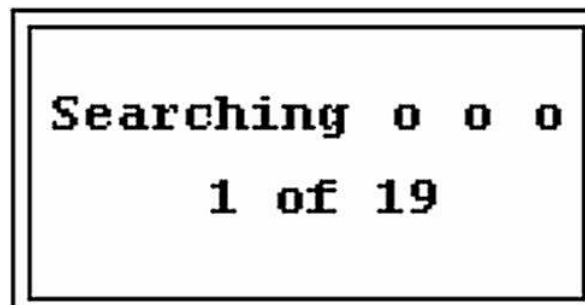
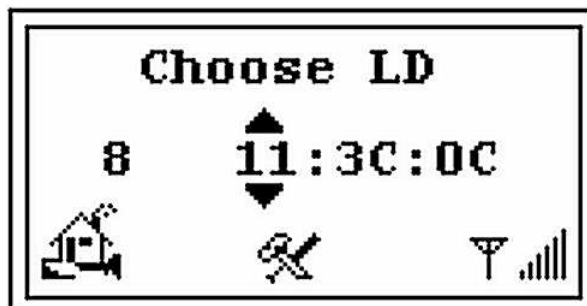

Figure 2-23 Searching Screen
Figure 2-24 Choose LD Screen
6. Press **Enter** and the *Searching* screen appears (Figure 2-23) followed by the *Choose LD* screen (Figure 2-24).